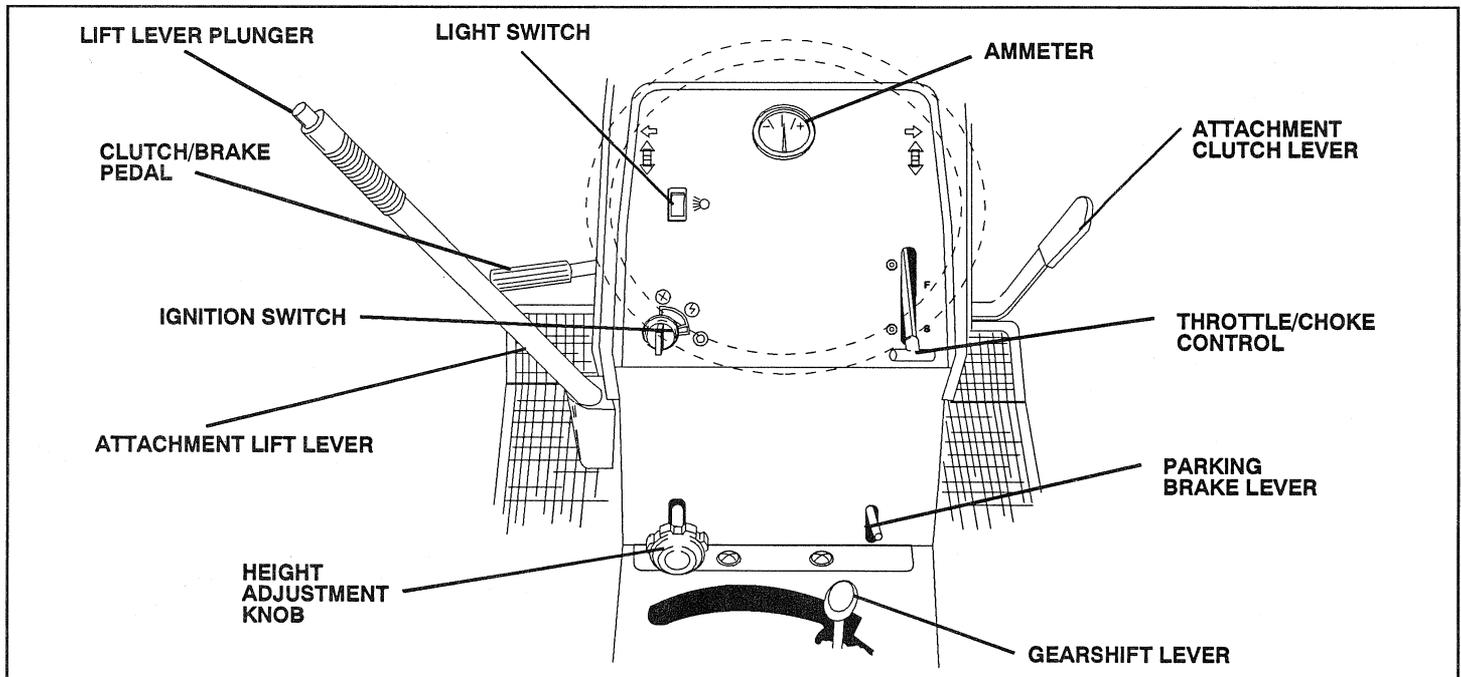

FIG. 6
- Raise attachment lift lever to its highest position (See Fig. 6).
- Release parking brake by depressing clutch/brake pedal (See Fig. 6).
- Slide seat until a comfortable position is reached which allows you to press clutch/brake pedal all the way down (See Fig. 6).
TO MOVE FORWARD AND BACKWARD (See Fig. 6)
TO ADJUST MOWER CUTTING HEIGHT (See Fig. 6)